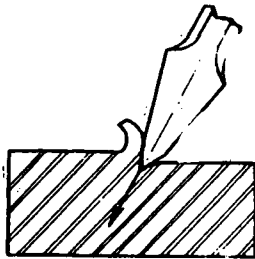
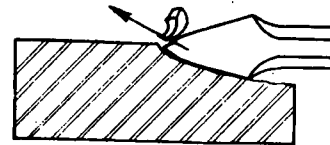

Fig. 11
Fig. 12
2. By increasing the angle at which you hold the chisel, you will cut deeper into the stock (Fig. 11). By reducing this angle, the chisel tends to slip out of the stock (Fig. 12).